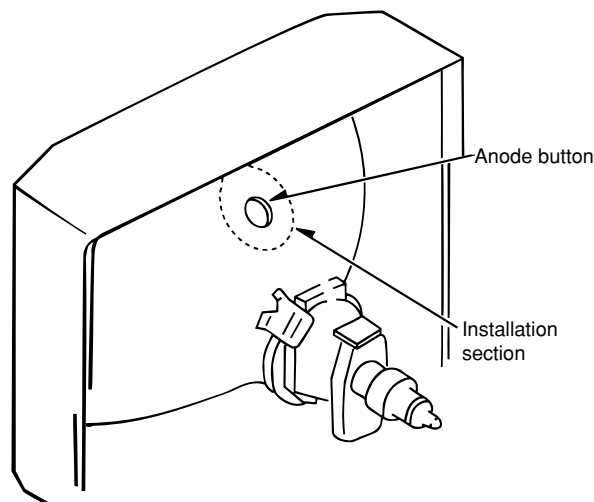

Figure 3-2
- (1) Use a clean cloth moistened slightly with alcohol to clean the installation section. (See Figure 3-2)
- (2) Coat the anode cap installation circumference with an appropriate amount of the specified silicone grease (KS-650N).